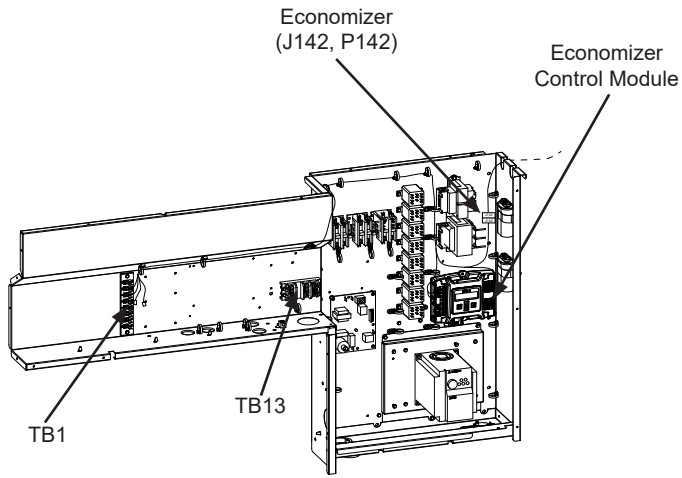

Figure 6 - HVAC Control Box
1. The economizer control module and harness are located below the actuator for shipping. Relocate the control to the unit control box, see Fig. 6.
2. Route the control wires to unit terminal block (TB1) and connect these wires to TB1 as follows (see Fig. 6):